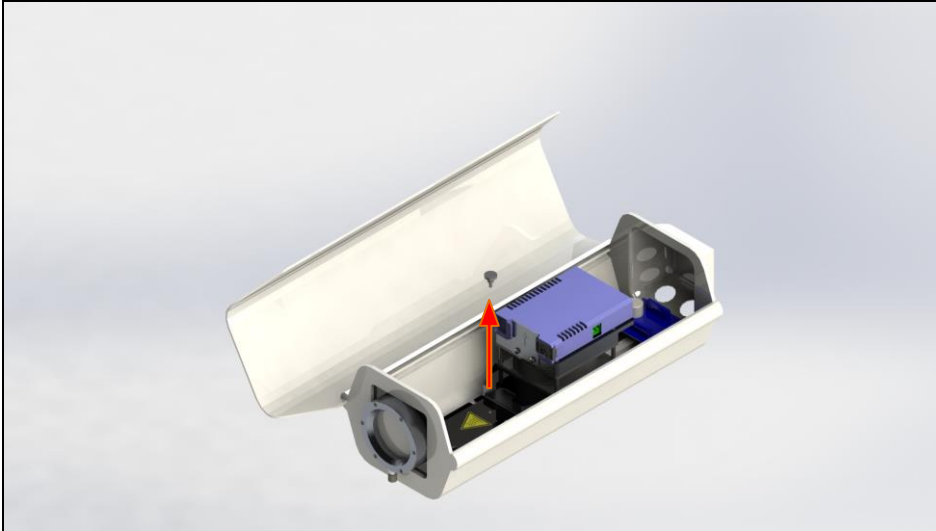

Figure 9: Loosen the knurled screw from mounting plate
Step 1: Loosen the knurled screw from the mounting plate (**Figure 9**).